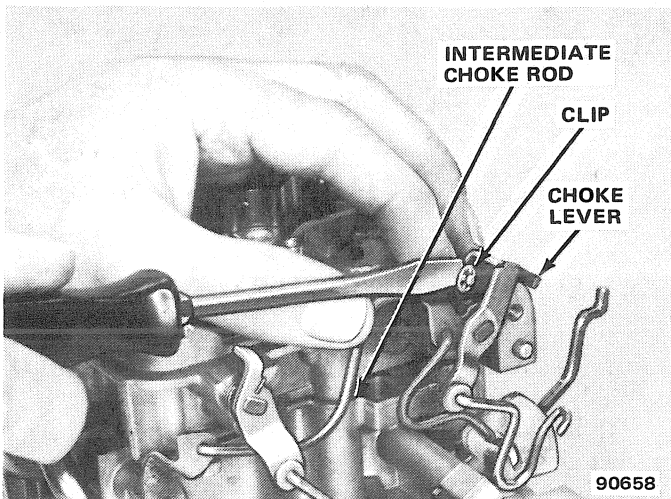

Fig. 1J-69 Carburetor Model E2SE—Intermediate Choke Rod and Clip Removal
(7) Remove three mixture control solenoid screws in air horn. Using slight twisting motion, carefully lift solenoid out of air horn (fig. 1J-70). Remove and discard solenoid gasket.
(8) Remove seal retainer and rubber seal from end of solenoid plunger. Do not damage or nick end of solenoid plunger. Discard seal and retainer.